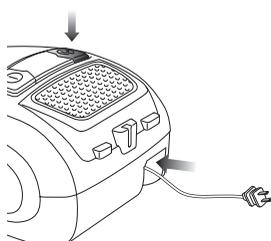

Fig. 3
- 2 To retract the power cord, press the cord rewind button. (Fig. 3) If the cord does not fully retract, pull it out a little and then press the rewind button again.